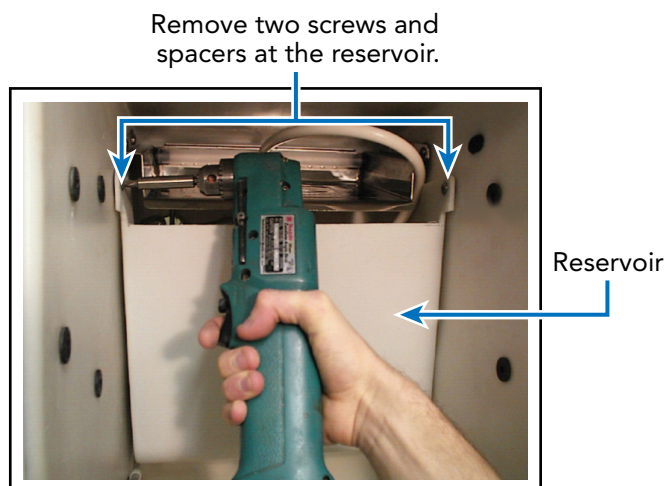

Figure 20
6. Remove the two screws and spacers that secure reservoir (see **Figure 20**).